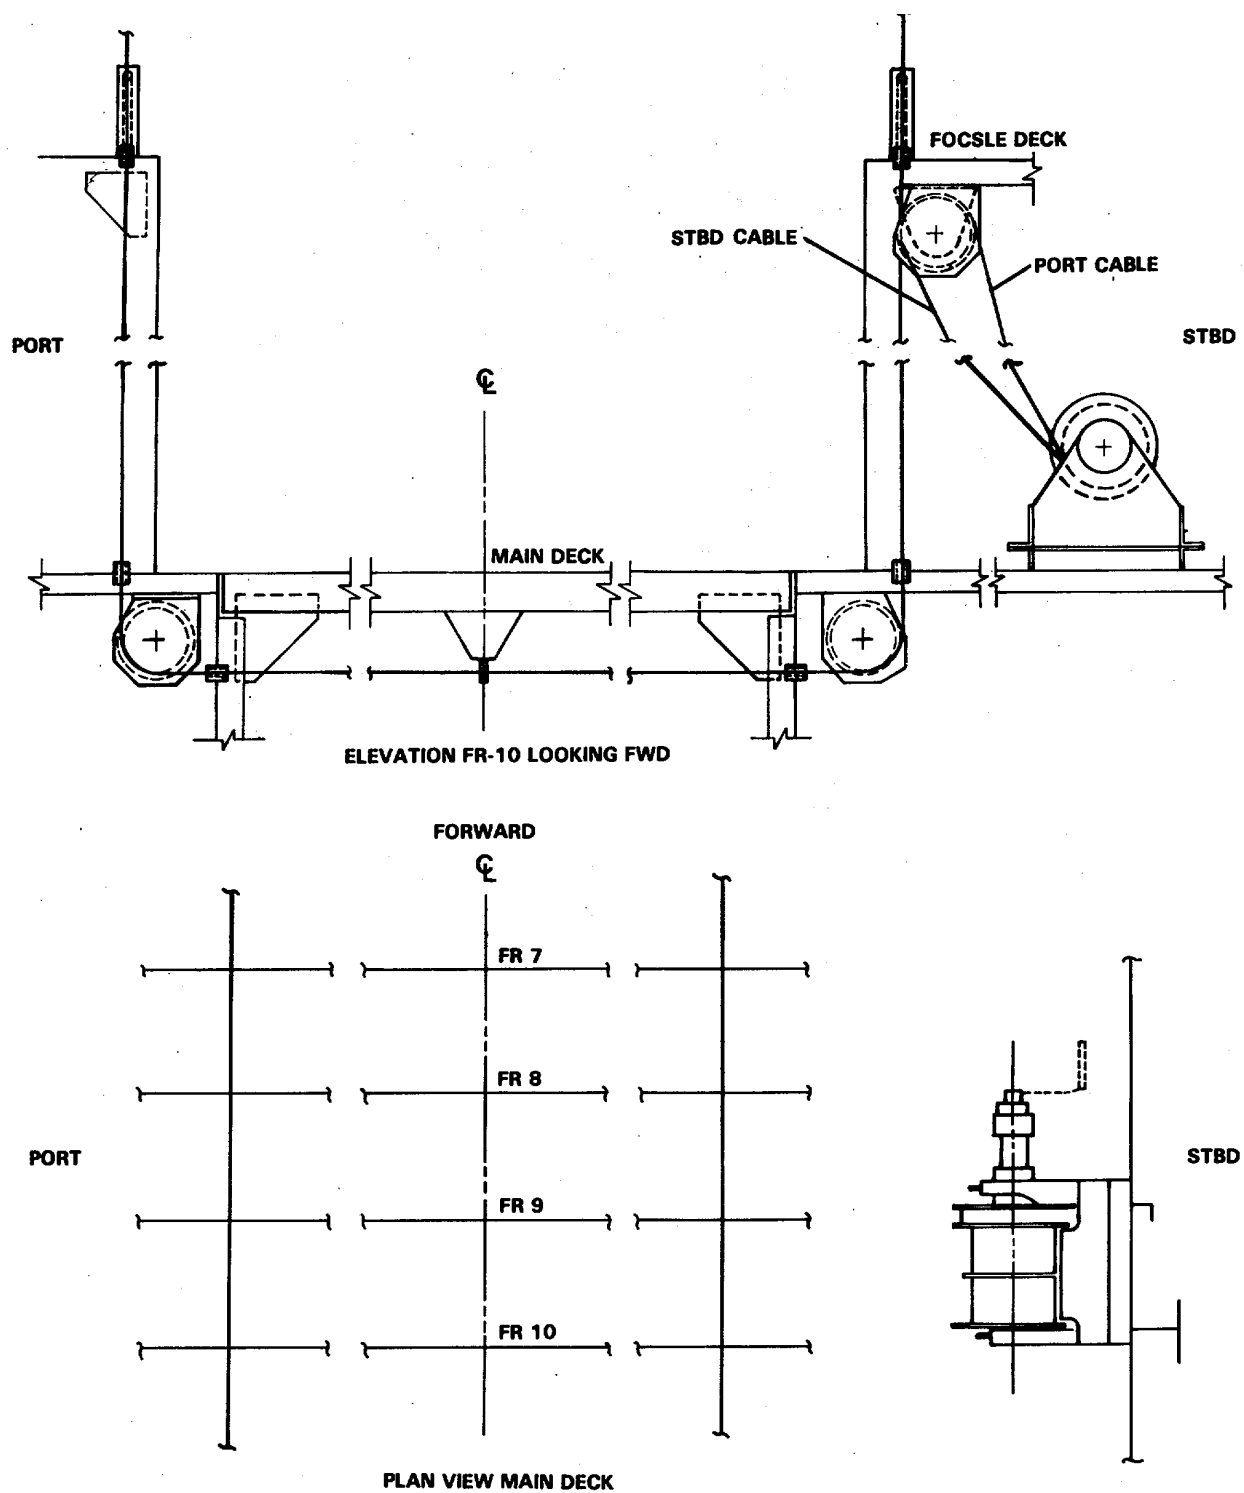

FIGURE 4-12. Rigging Arrangement.
- (1) To install wire rope (12), lay wire rope on deck in a coil or roll off of a reel to prevent snarls or kinks.
- (2) Feed winch end of wire rope through sheeve assemblies and main deck to the winch drum using FIGURE 4-12 as a guide. Install end of wire rope into winch cable anchors (3, FIGURE 4-10) and secure to desired fit.